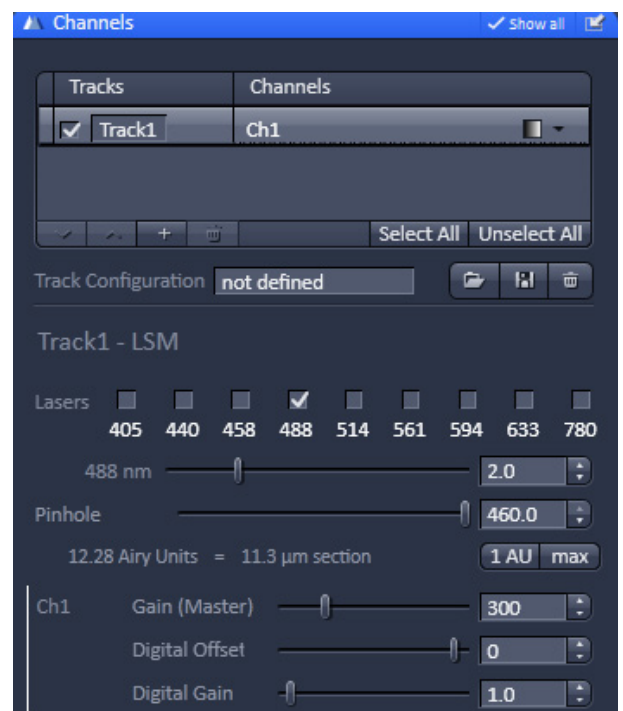

Fig. 282 Channel settings for finding glass reflection
- Set up scan control in the LSM **Channels** tool (Fig. 282). Open Pinhole to maximum. Set detector gain between 200 and 300, and laser power to 2 %.